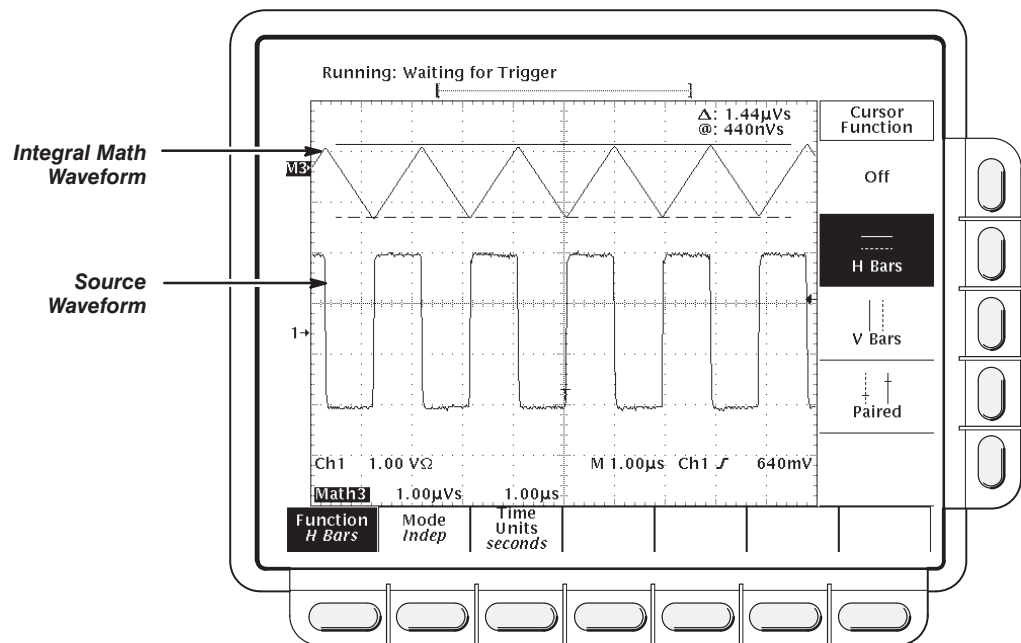

Figure 3-2: H Bars Cursors Measure an Integral Math Waveform
6. Read the integrated voltage over time between the cursors in volt-seconds from the **Δ**: readout. Read the integrated voltage over time between the selected cursor and the reference indicator of the math waveform from the **@**: readout. See Figure 3-2.